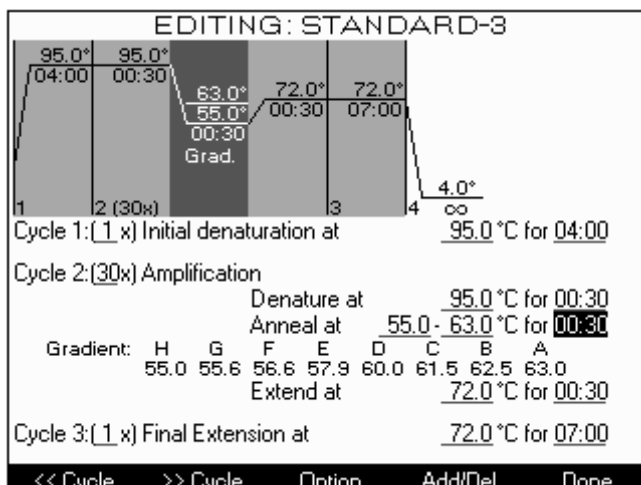

Fig. 3.4. Editing Protocol: Display of Gradient Temperatures.
- Once selected, a default value of 10°C minimum-maximum gradient will be displayed. Input the desired range of the temperature gradient. The display will be updated with the temperatures for each row of samples (Figure 3.4). These values will be recorded in the run and validation reports (see Section 4.3). **Note:** The minimum gradient is 1.0°C; the maximum gradient is 25°C. The lowest available temperature within any gradient is 40°C; the highest allowable temperature within any gradient is 99°C.